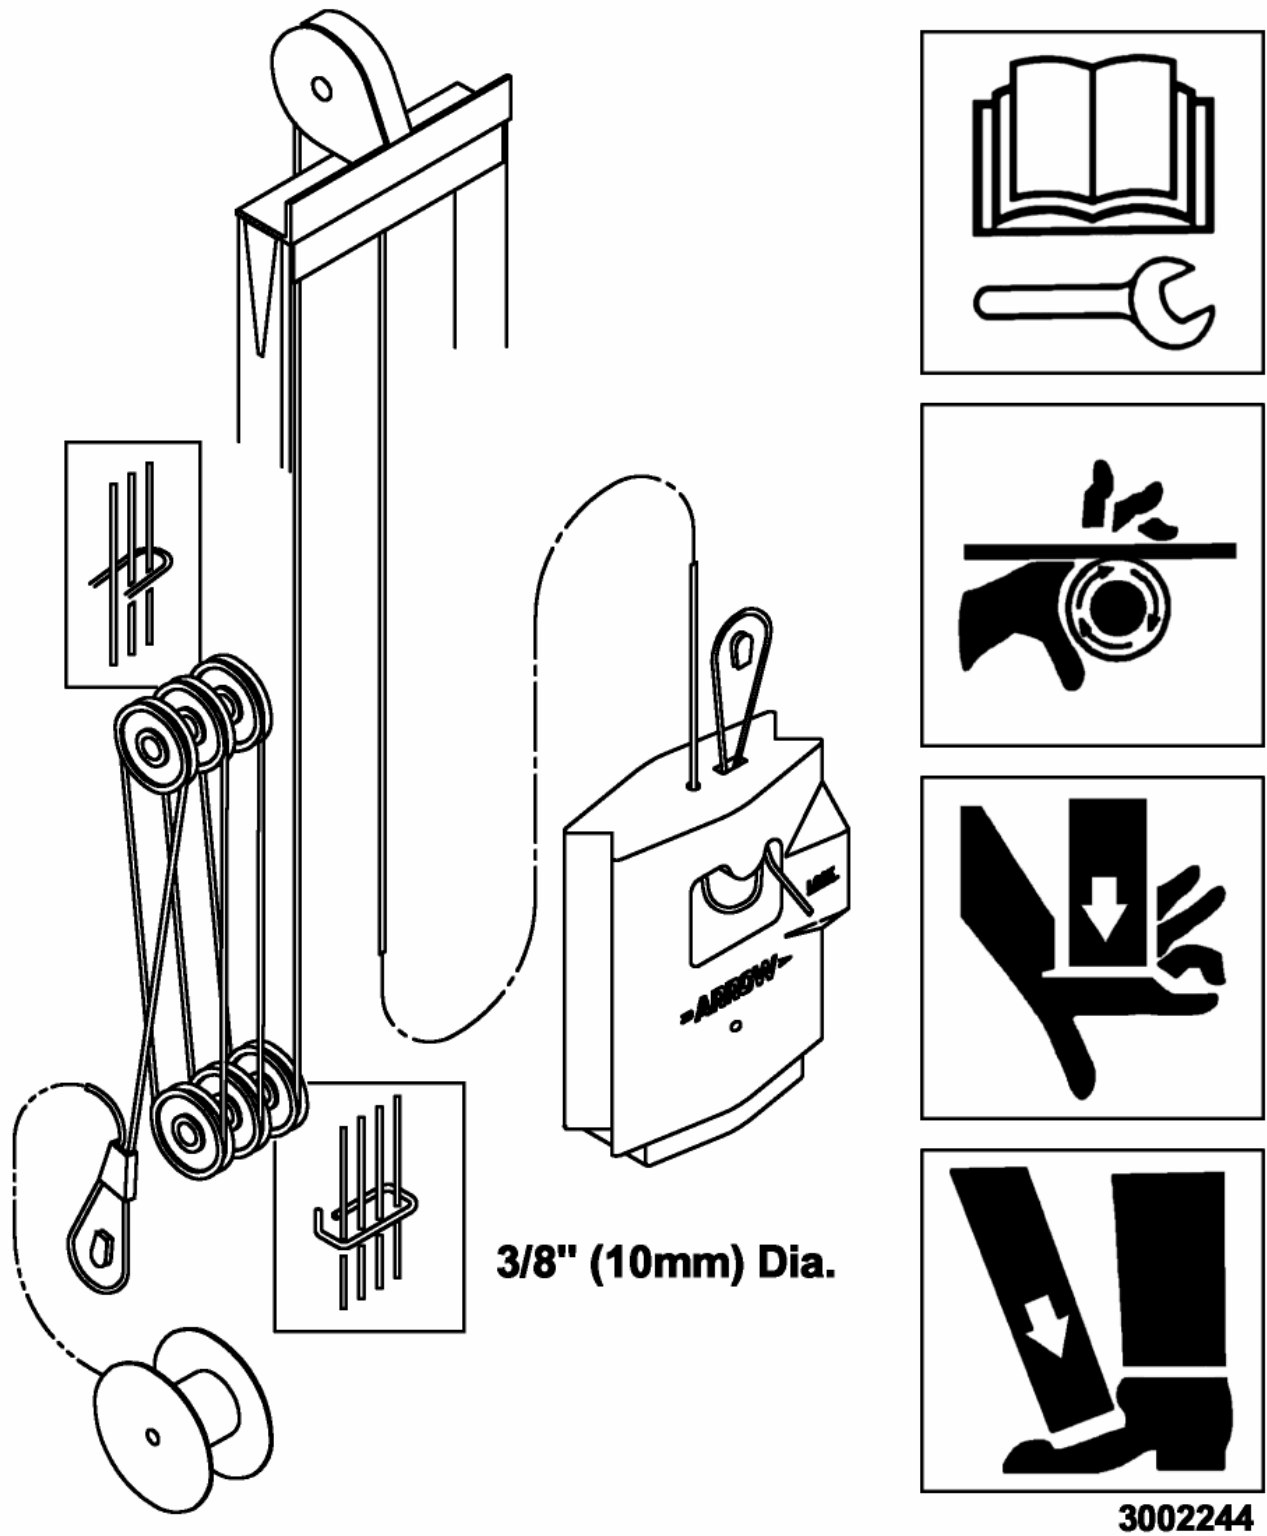

Figure 7-1
In order to account for differences in the length of certain tools it may be necessary to make adjustments to the length of the cable.* Refer to Figure 7-1 and use the following procedure when adjusting the cable:
4. Loosen the cable wedge at the hammer weight or at the base of the lift cylinder. (Refer to Figure 7-1)
Cable Spool - Refer to the following instructions and Figure 7-1.
3. Loosen the cable spool nut and rethread the cable as needed (refer to Figure 7-1). Make sure the cable is threaded inside the two retaining loops on the attachment bracket.
Short Cable - 51' (15.5 m) Minimum - Refer to the following instructions and Figure 7-1.
2. Remove both cable wedges (Refer to Figure 7-1).
4. Insert the end of the new cable at the base of the lift cylinder and reinstall the cable wedge (Refer to Figure 7-1).
5. Thread the cable through the sheaves in the lift cylinder as shown in Figure 7-1. Make sure that the cable is threaded inside the two retaining loops on the attachment bracket (Refer to Figure 7-1).